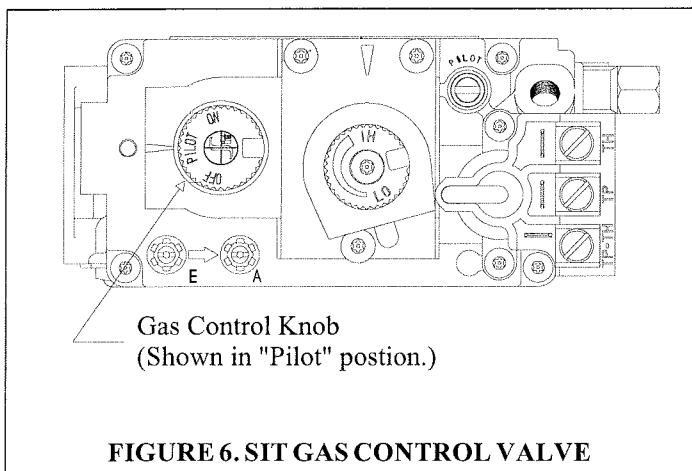

FIGURE 6. SIT GAS CONTROL VALVE
The **Montigo 36PFC** is equipped with a remote-operated valve, located behind the removable grille. 10 Ft. of low voltage wire is supplied with the fireplace, simply mount a wall switch and connect low voltage wire. (Refer to Figure 6) The circuit is pre-wired and has a completely self-contained millivolt electrical system: **DO NOT** connect any external power to it.
- Have the fireplace installation inspected yearly, including a visual check of the vent system, the burner and the pilot flame. For your convenience a 1/8" manifold pressure tap is supplied on the gas valve for a test gauge connection. See Figure 6.